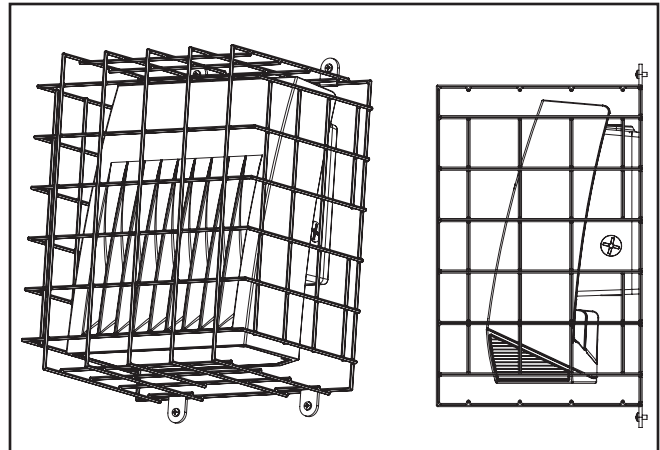

Figure 1.
3. Use #8 fasteners (supplied by others) to attach wire guard to the mounting surface. (Figure 1.)